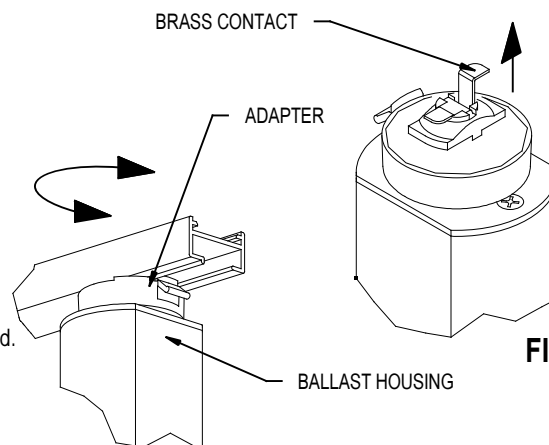

FIG. 3
1. Raise BRASS CONTACT to high position by pulling CONTACT as high as stop permits (See FIG. 3).